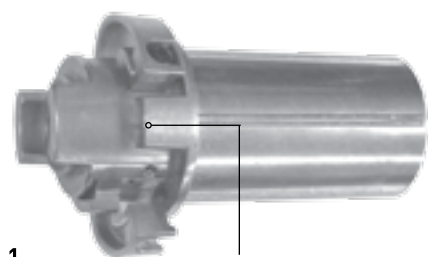

Figure 4.1
**Note:** Every Axle Stop adaptor has an index mark on the head of the adaptor. [ Figure 4.1 ]